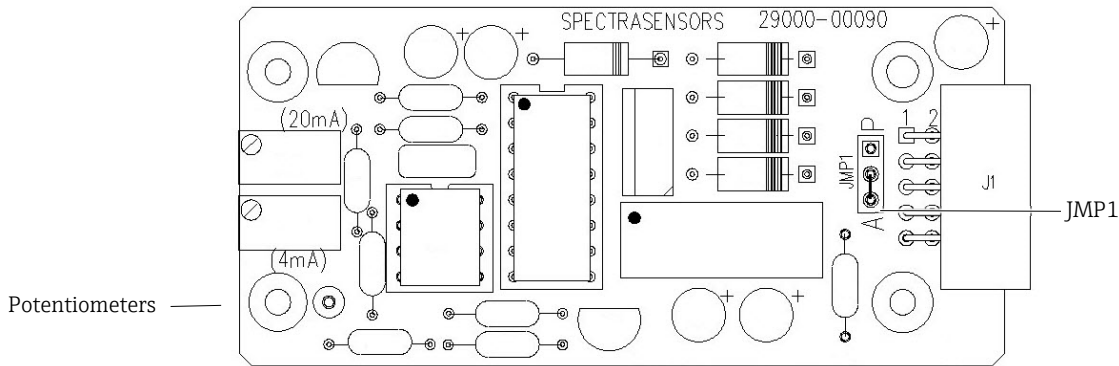

Figure 12: 4-20 mA output board
3. Remove the jumper (JMP1), shown in Figure 12, connecting the center hole to point “A.”
2. Adjust the potentiometers on the end of the board to change the zero and span readings. Refer to Figure 12.